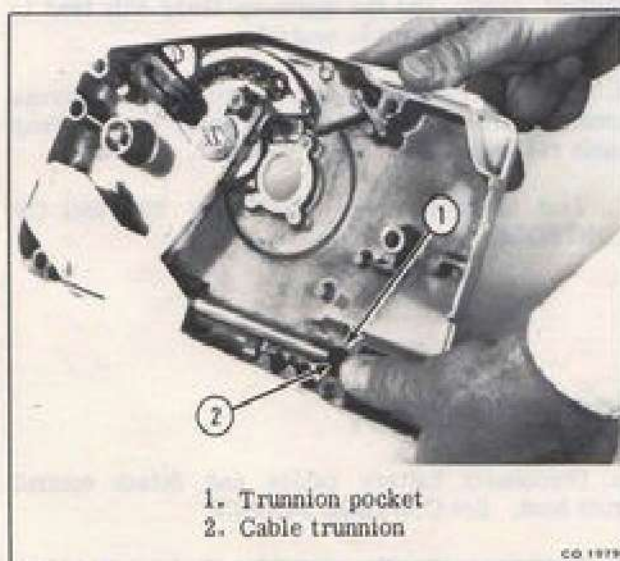

Figure 8-10. Installing Throttle Cable
- Insert cable trunnion into trunnion pocket in housing half as shown in Figure 8-10.